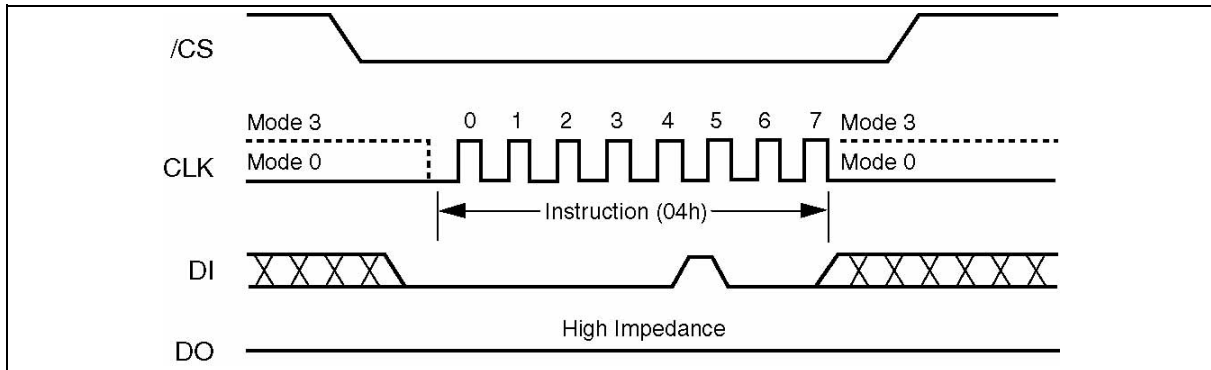

Figure 4. Write Disable Instruction Sequence Diagram
Instructions vary in length from a single byte to several bytes and may be followed by address bytes, data bytes, dummy bytes (don't care), and in some cases, a combination. Instructions are completed with the rising edge of edge /CS. Clock relative timing diagrams for each instruction are included in figures 4 through 16. All read instructions can be completed after any clocked bit. However, all instructions that Write, Program or Erase must complete on a byte boundary (/CS driven high after a full 8-bits have been clocked) otherwise the instruction will be terminated. This feature further protects the device from inadvertent writes. Additionally, while the memory is being programmed or erased, or when the Status Register is being written, all instructions except for Read Status Register will be ignored until the program or erase cycle has completed.
The Write Enable instruction (Figure 4) sets the Write Enable Latch (WEL) bit in the Status Register to a 1. The WEL bit must be set prior to every Page Program, Sector Erase, Chip Erase and Write Status Register instruction. The Write Enable instruction is entered by driving /CS low, shifting the instruction code "06h" into the Data Input (DI) pin on the rising edge of CLK, and then driving /CS high.